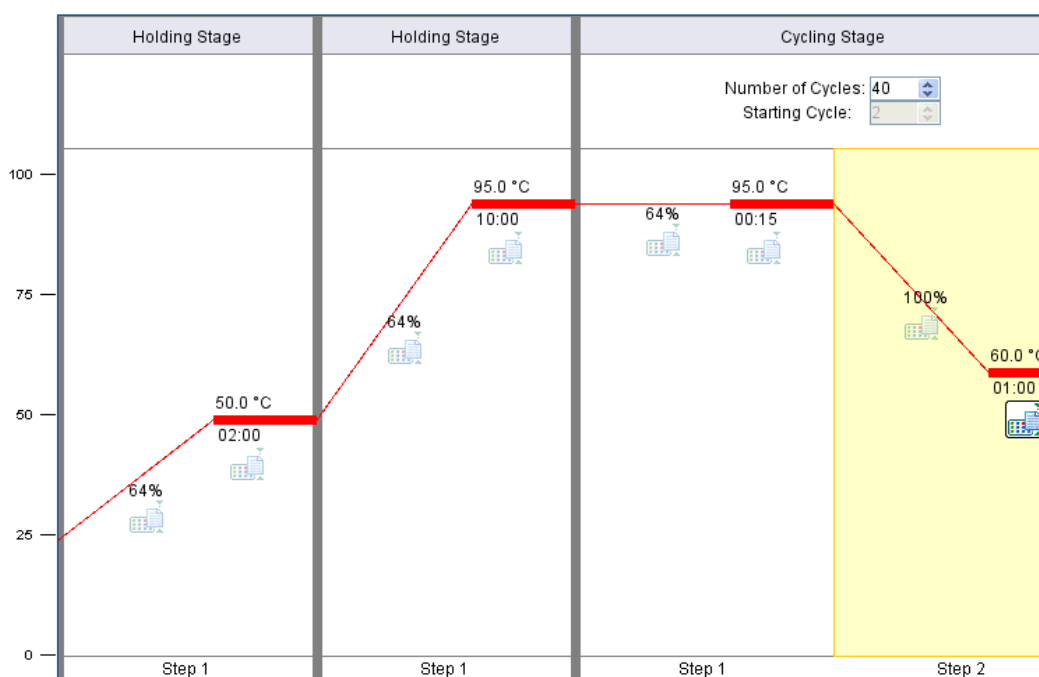

Figure 11 Quantifiler® Duo Kit thermal profile
2. Select the **Graphical View** tab to open the thermal profile for Quantifiler® Duo (Figure 11) or Quantifiler® Human and Male (Figure 12).